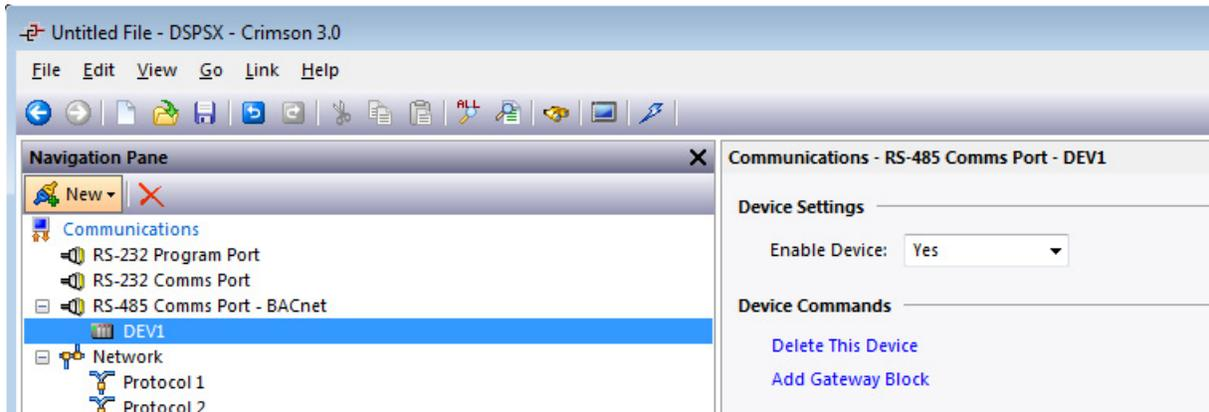

Figure 3.
6. Referring to Figure 3, go to the Navigation Pane and click on the device below the desired port; *DEV1* in this example.